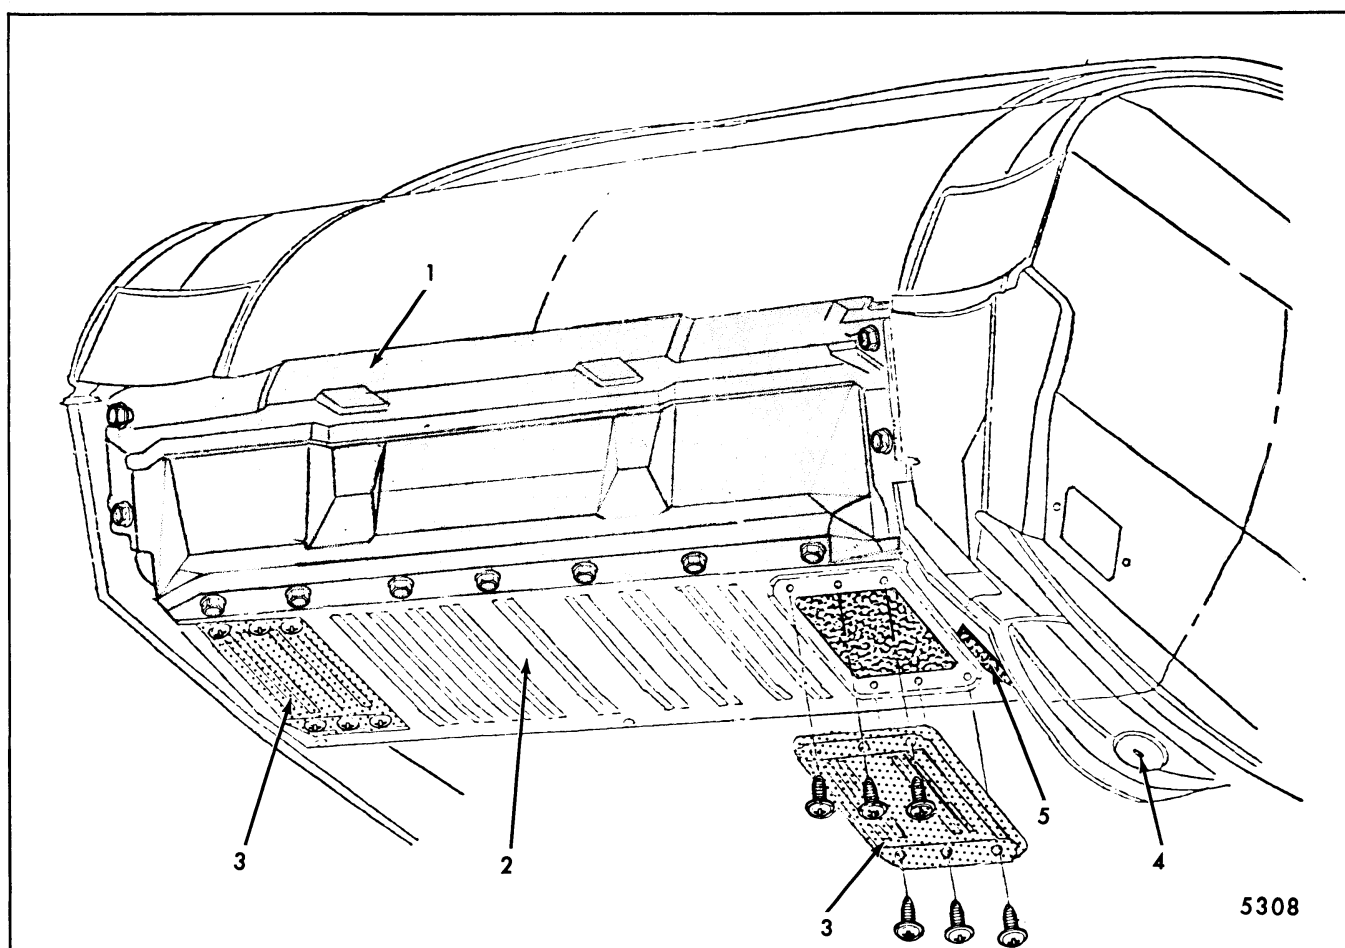

Fig. 7-87-Body Rear Upper and Lower Housing Components
1. With tail gate in the closed position, remove back body lower housing access hole covers (Fig. 7-87).
**WARNING:** WHEN PERFORMING TAIL GATE SERVICE OPERATIONS THROUGH ACCESS OPENINGS IN BODY REAR LOWER HOUSING (FIG. 7-87), PLACE BODY TAPE OVER TAIL GATE OPENING KEY CYLINDER TO PREVENT INADVERTENT OPERATION OF THE TAIL GATE.
The back body lower housing assembly, an integral component of the body, serves as a storage area for the tail gate when the gate is lowered (Fig. 7-87). It is considered a "wet" area because it accepts water drained from inside the tail gate assembly as well as water that passes the filler strips between the tail gate outer panel and the upper housing. The lower surface of the housing is designed with a slope toward a drain slot on the right side. The back body upper housing which is bolted to the rear section of the lower housing, serves to enclose the tail gate storage area and provide support for rear bumper face bar attachments. Two access covers are secured to the underside of the lower housing and are provided to permit servicing the tail gate components contained therein.